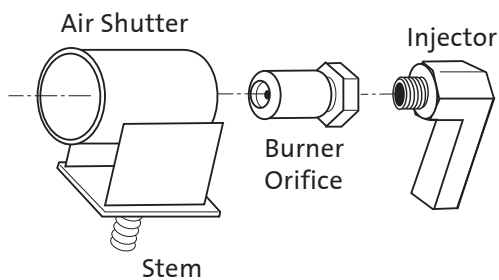

Figure 31. Burner orifice removal and replacement.
6. Adjust the Air Shutter: See Fig. 31.